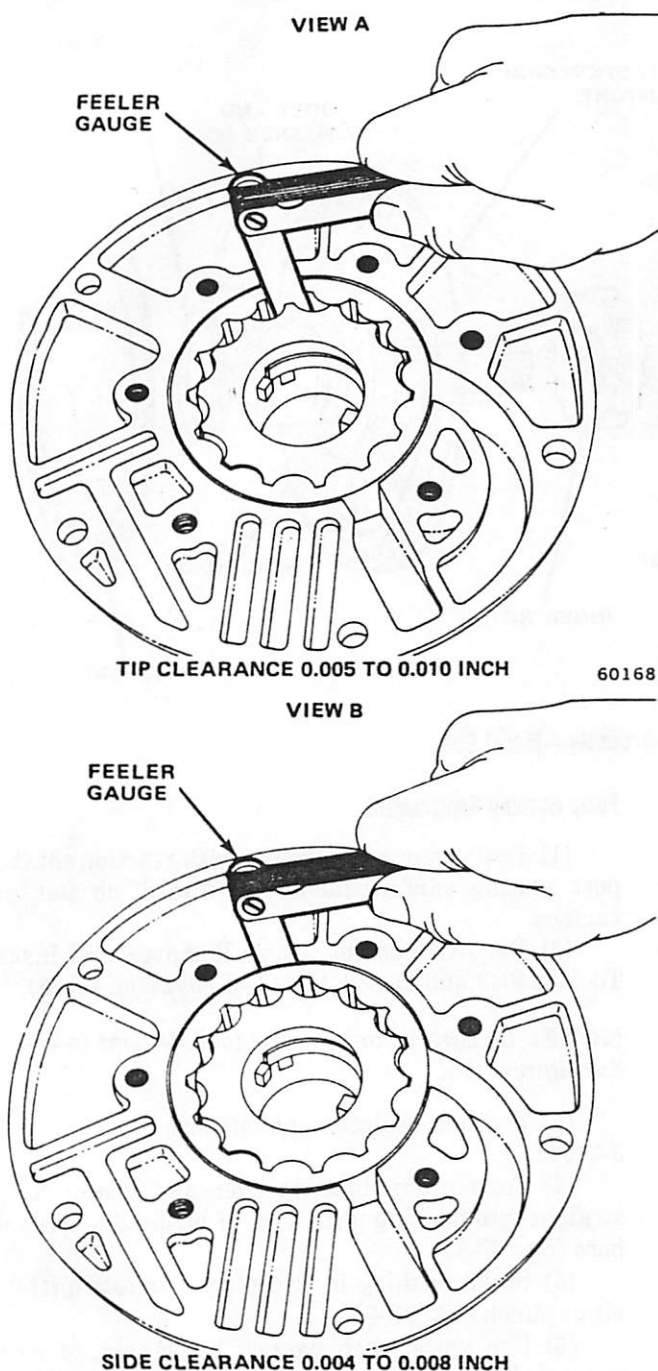

Fig. 2C-52 Measuring Rotor Clearance—Model 999
- (1) Thread Bushing Remover Tool J-24036 straight into bushing as far as possible by hand (fig. 2C-56).
- (2) Using wrench, thread remover tool into bushing three or four additional turns to fully engage threads of tool in bushing.